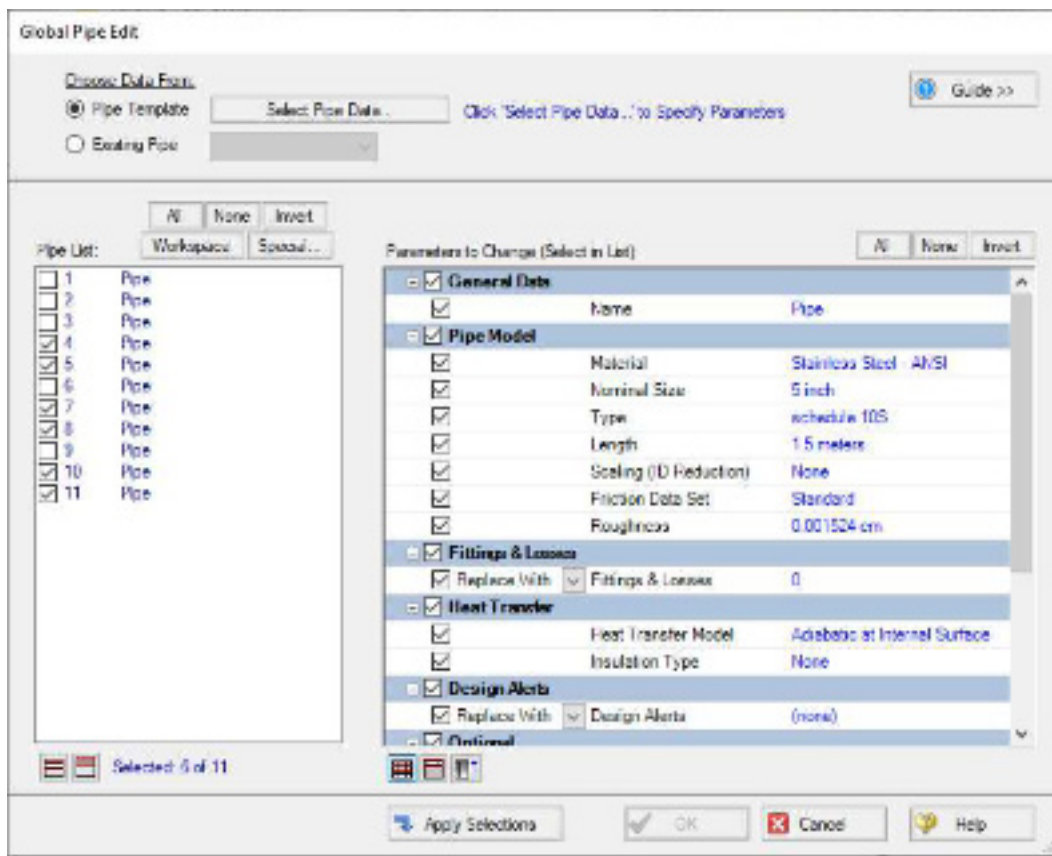

Figure 3.3 Global Pipe Edit window with all pipe parameters selected for updating
- **Select the All button above the Parameters to Change list,** since for this example, you want all of the parameters for all of the selected pipes to be updated to the specified values. The Global Pipe Edit window should now appear as shown in Figure 3.3.